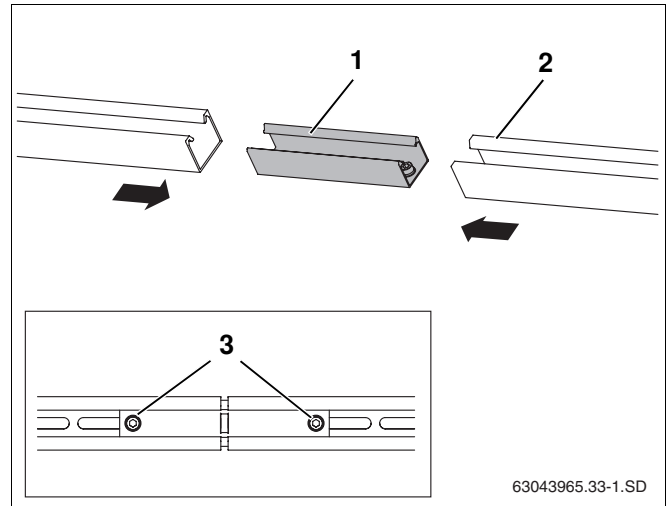

Fig. 31 Connecting profile rails
- Push rail connector (Fig. 31, **Item 1**) as far as it will go into both profile rails (Fig. 31, **Item 2**).
- To lock, tighten both fitted M10 threaded studs (Fig. 31, **Item 3**) in the rail connector using a size 5 Allen key.